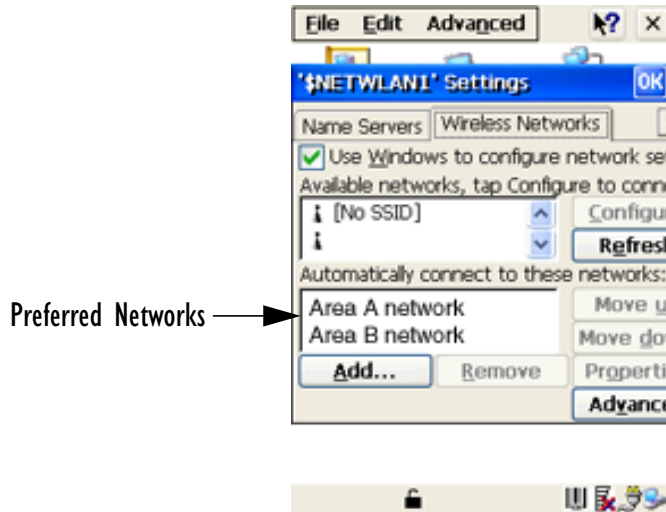

Figure 2.15 Wireless Networks Tab
- In the 'preferred network' list (see Figure 2.15 on page 26), highlight the network in which you want to add or modify a WEP key, and then